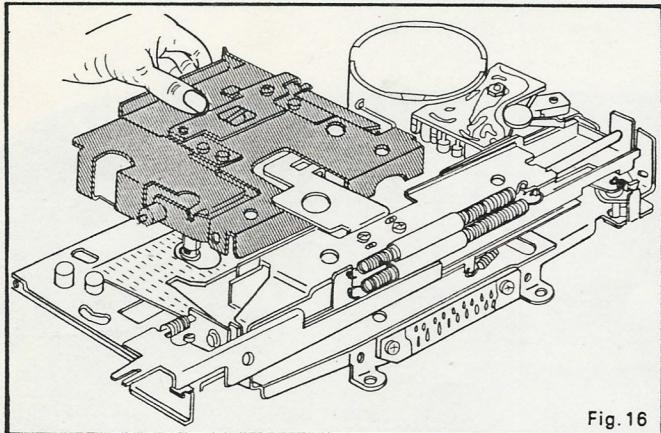

Fig. 16
1) Turn the pack guide Ass'y (960-2918-00) at right angles (in the same horizontal) as shown in Fig. 16